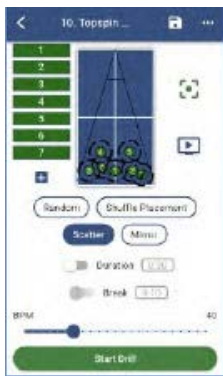

Figure 3-50
- **Scatter** - Adds more variability to the trajectory and placement. This mode is similar to the less precise shots that a human might deliver. The ball will be delivered within a 20cm diameter around the placement chosen on the screen – which is displayed on screen. (Figure 3-50)